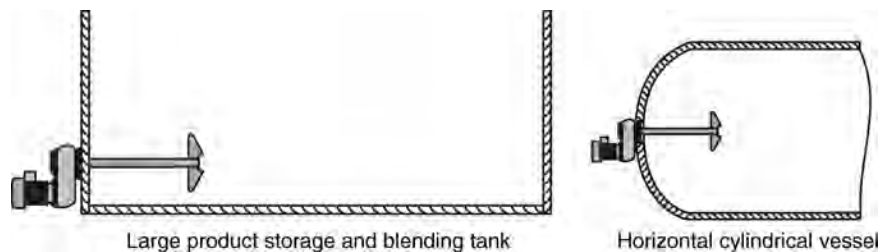

FIGURE 6.11 Side-entry propeller mixers used for blending liquids.
- Figure 6.11 illustrates side-entry propeller mixers used for blending purposes.